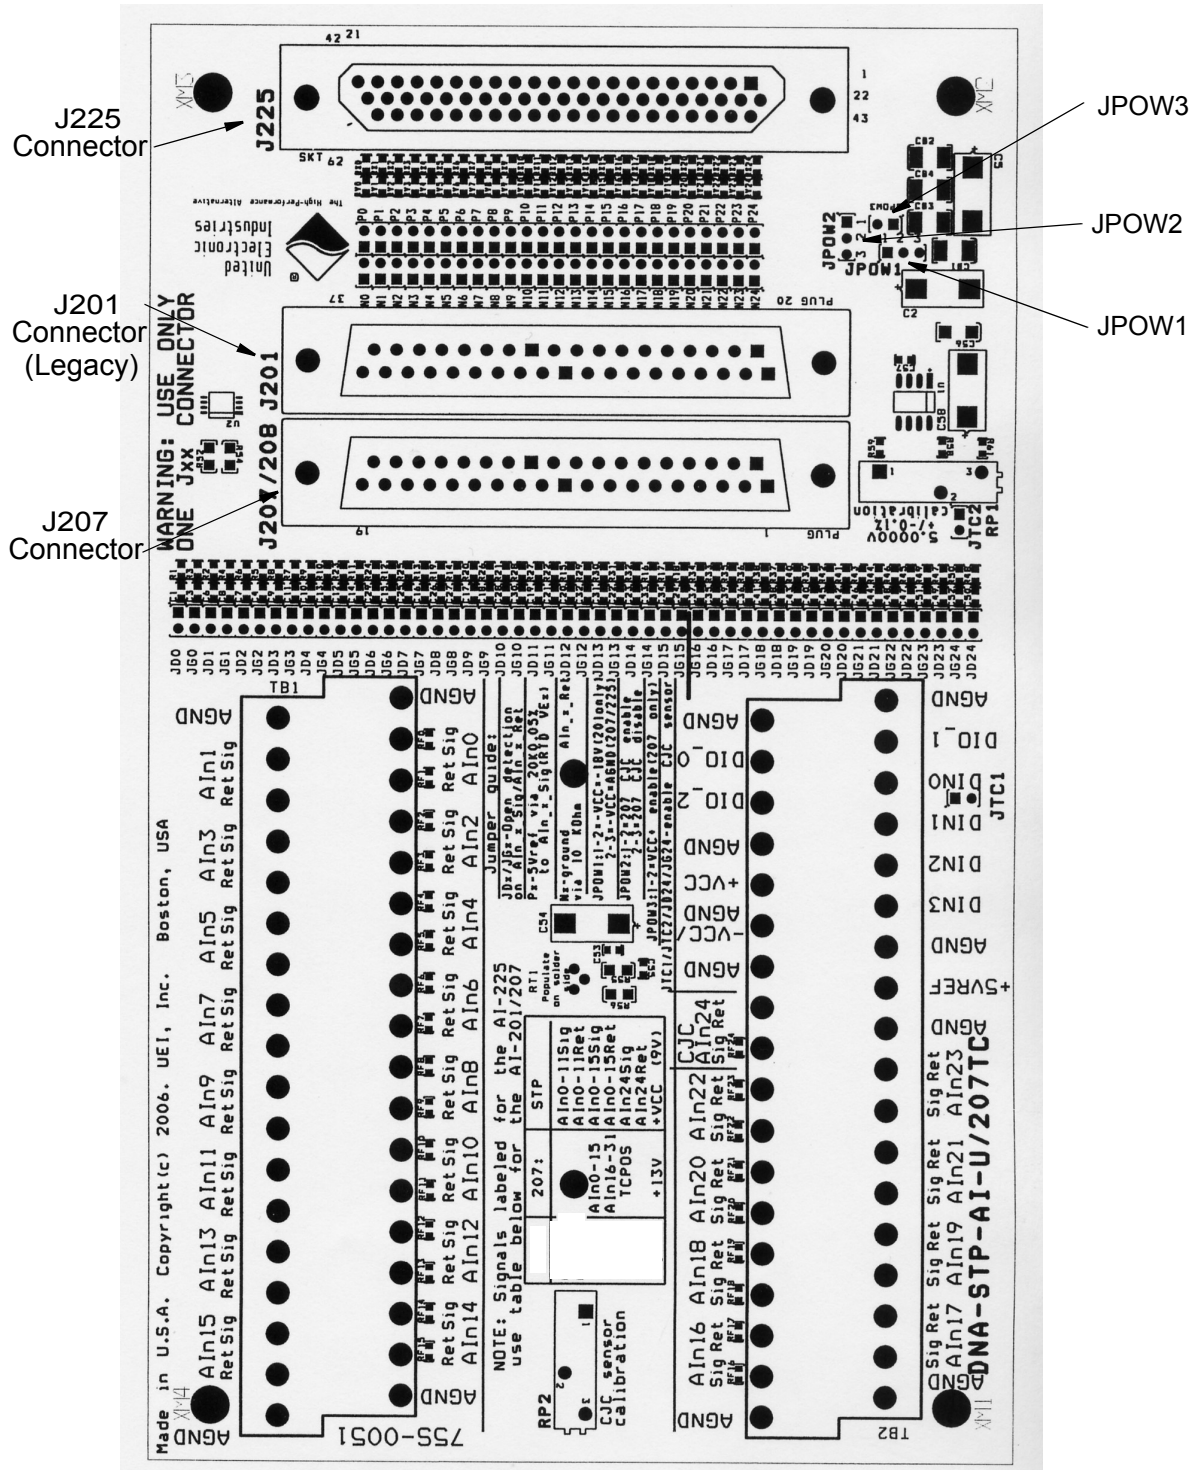

Figure 1-2 Location of Jumpers/Connectors on STP-AI-U Panel
Refer to **Figure 1-2** for connector location and proceed as follows:
- STEP 1:** Refer to **Figure 1-2** for location of jumpers.
- STEP 3:** If you are using a DNA-AI-207 Layer, install a jumper in JPOW1 between Terminals 2 and 3. Install a second jumper in JPOW2 between Terminals 1 and 2. Install a jumper in JPOW3 between terminals 1 and 2 (ON).
Figure 1-2 shows the locations of various jumpers on the STP-AI-U panel board. (Refer to Table 2-2 on page 12 for a summary of all jumper settings.)